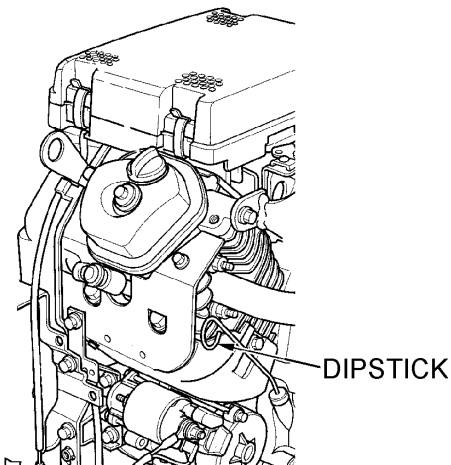

Figure 6. Engine Oil Dipstick Removal
2. Remove the dipstick from its holder (Figure 6) and wipe clean.